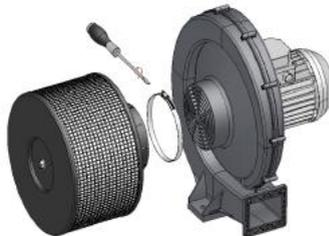

FIGURE 8
3. Insert the possible filter on the inlet section, fixing it using the fastening band (supplied with the filter) (FIGURE 8).